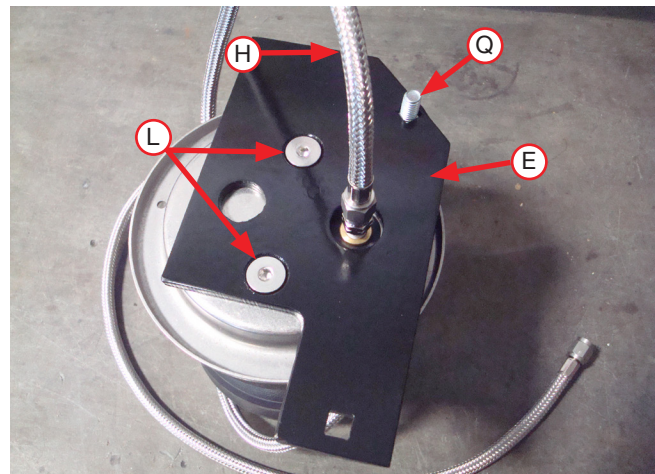

Fig. 16
2. Insert a 3/8" carriage bolt (Q) into the square hole of the right-hand upper spring bracket (E) on the opposite side of the tapered holes as shown in Fig. 16. Set the bracket onto the air spring assembly and install with two flat head screws (L). Torque the screws to no more than 20 lb.-ft. (27Nm). Install the braided hose (H) onto the fitting previously installed and turn one flat (see *Installing the Air Lines* section for reference).